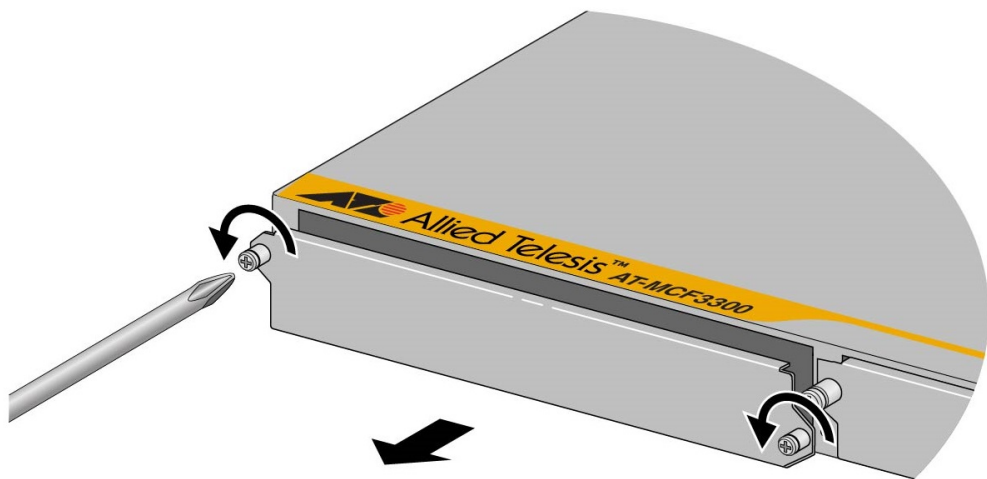

Figure 29. Removing a Blank Cover from a Media Converter Slot
2. If the selected slot has a blank cover, loosen its two captive screws with a cross-head screwdriver and remove it from a media converter. The example in Figure 29 shows the removal of the blank cover from slot 1.